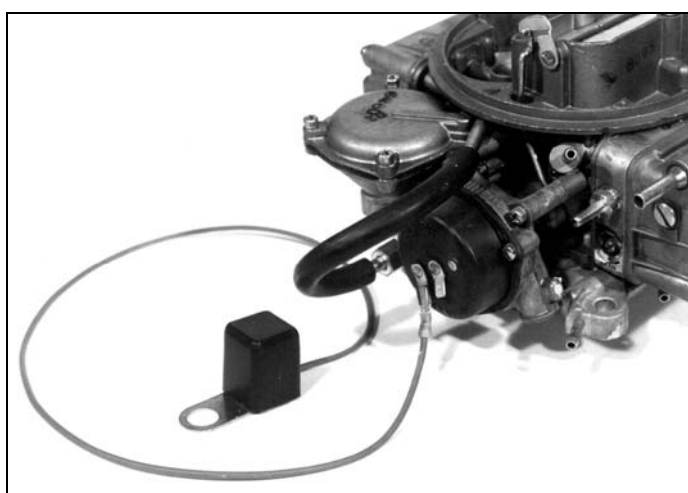

Figure 4
6. Connect the thermister wire to the (-) ground lead on the choke cap. Bolt the thermister to the intake manifold (See Fig. 4).